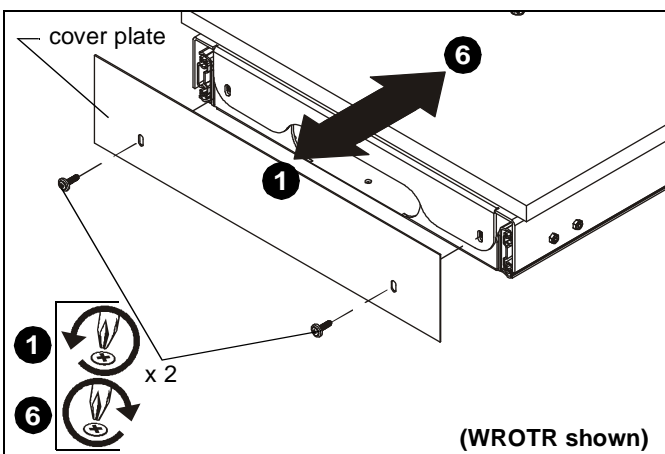

Figure 6
- Remove and **SAVE** two screws from ST-/WROTR base (A) front and remove the cover plate. (See Figure 6)
- Slide top of base forward, exposing bottom of base. (See Figure 6)
- Swivel ST-/WROTR to front and close ST-/WROTR. (See Figure 6)
- Replace cover plate and attach with two fasteners removed in Step 1. (See Figure 6)